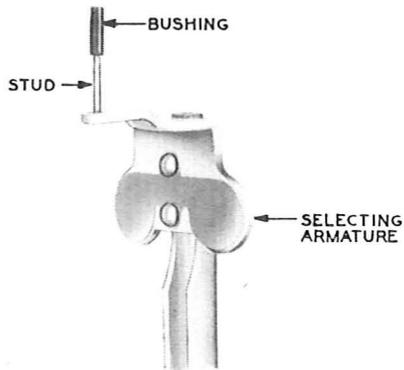
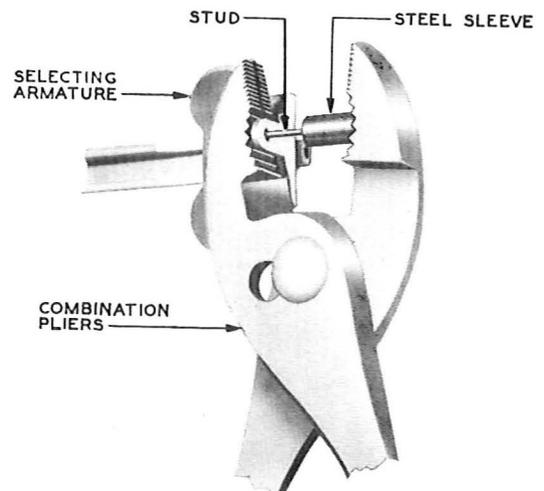

Fig. 11 - Bushing and Armature
Fig. 12 - Method of Installing Bushing
3.28 Selecting Armature Bushing: Remove the selecting bar as covered in 3.05. Remove the bushing from the stud by crushing it with the long-nose pliers. Round off the crimped end of the stud with the long-nose pliers to permit pressing on the replacing bushing. Place a new bushing in position on the end of the stud as shown in Fig. 11. Place the P-10A200 steel sleeve over the bushing. Force the bushing on the stud and against the armature with the combination pliers, as shown in Fig. 12, being careful not to break the bushing. After the bushing is in place, flatten the tip of the stud with the long-nose pliers. Remount the selecting bar as covered in 3.05.
5. To add replacement information for selecting armature bushings. (Figs. 11, 12, and paragraph 3.28)